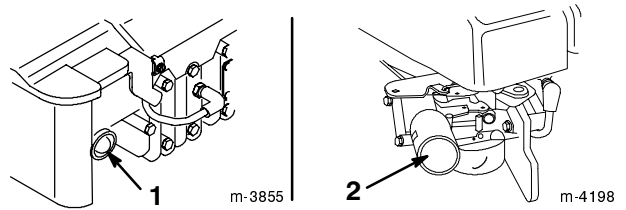

Figure 12
2. Push the primer three times, waiting two seconds between each push (Fig. 12).